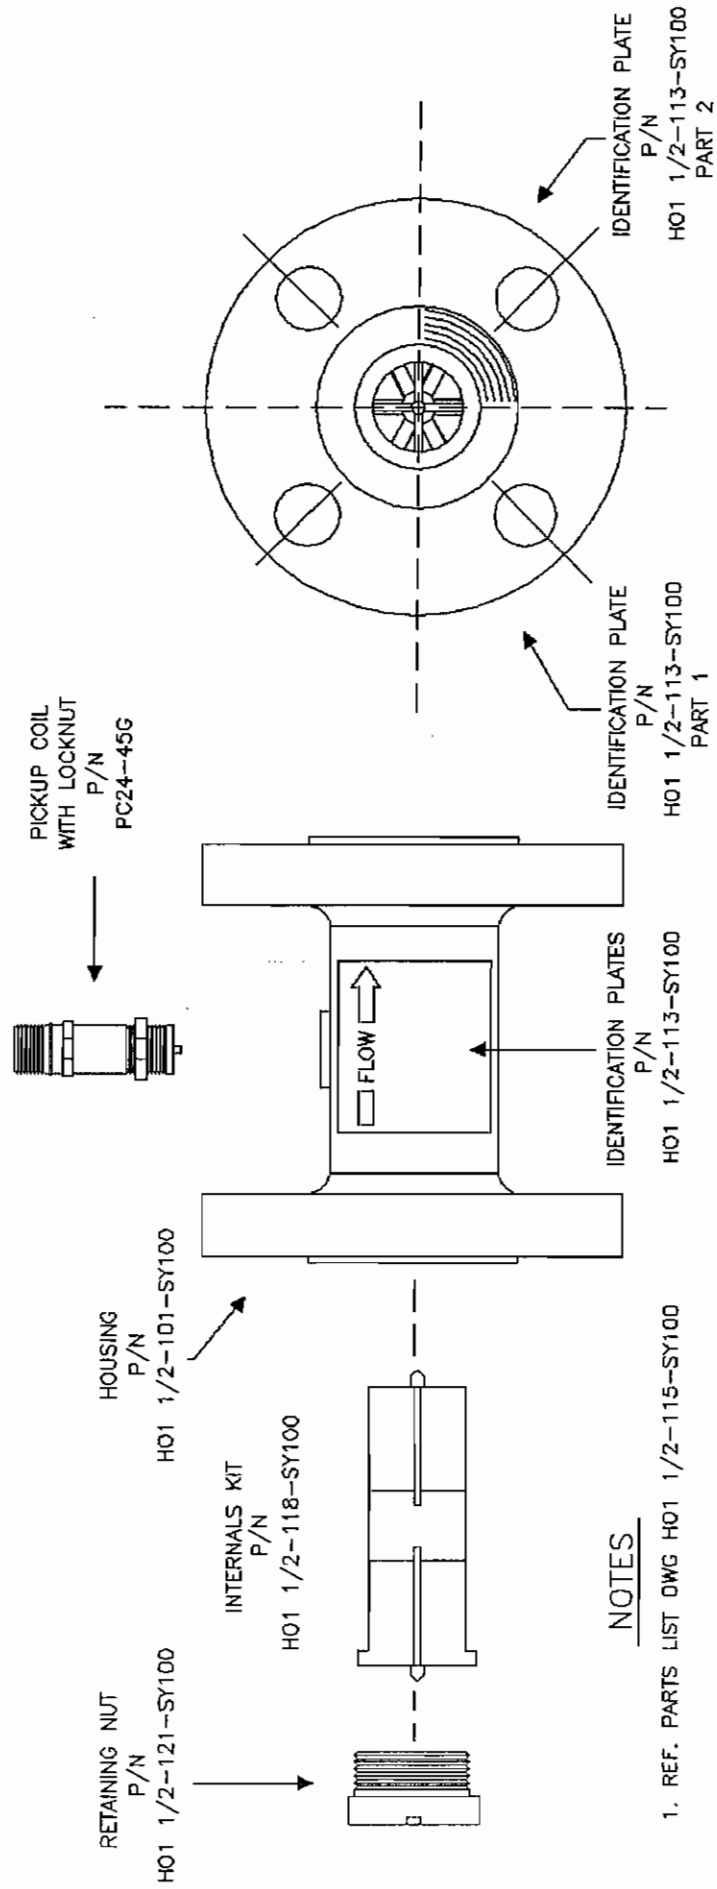

FIGURE 6-2 FLOW SENSOR DISASSEMBLY
4. Study Figure 6-2 prior to disassembling the flow sensor. Use the spanner wrench to remove the retaining nut on the flowmeter inlet. The internals kit may now be removed from the flowmeter housing.
10. Orient the flow sensor into the ships piping observing that the flow direction marking on the flow sensor body, matches the direction of fuel flow, reference Figure 6-2.